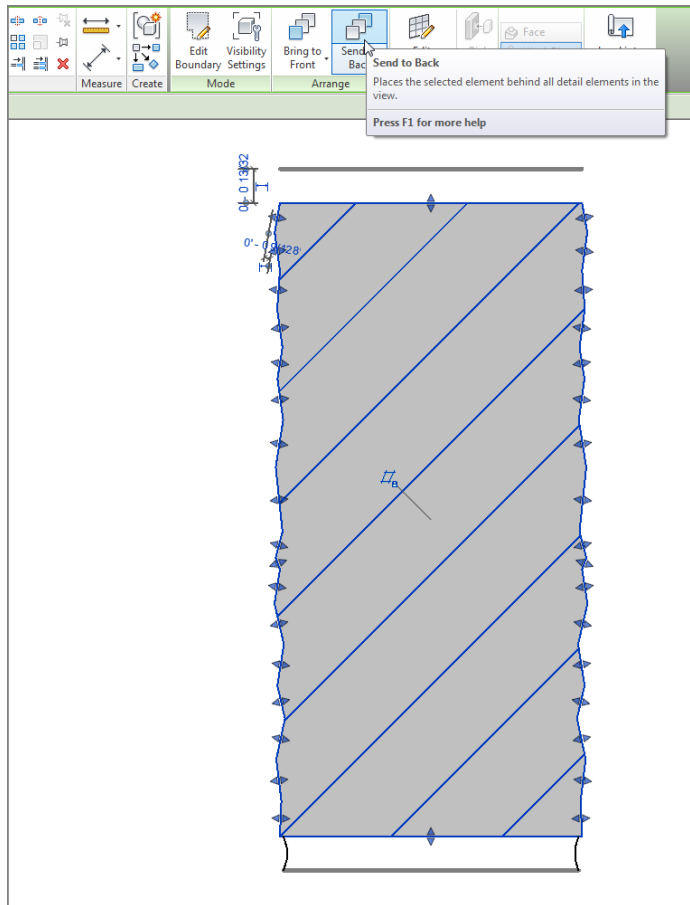

FIGURE 12.27: Sending the light shade to the back
16. On the Arrange panel, click the Send To Back button, as shown in Figure 12.27.